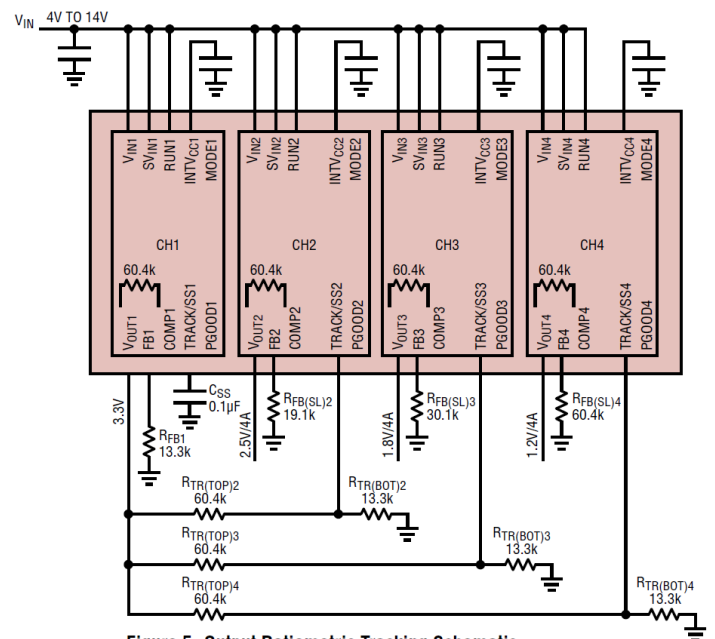
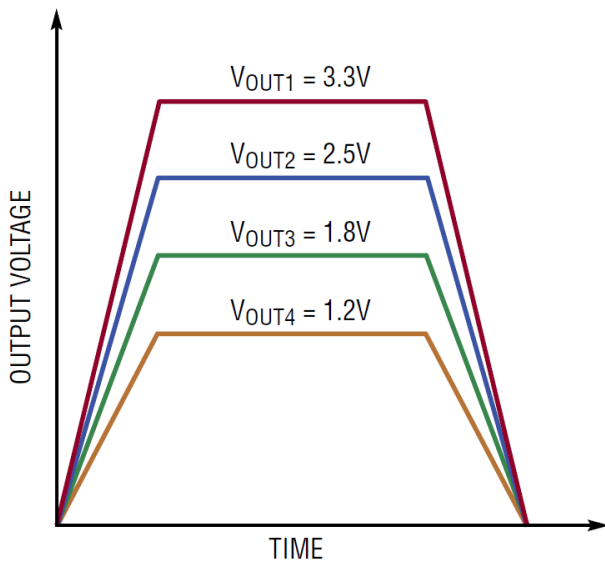

Figure 5. Output Ratio-metric Tracking Schematic
Figure 4. Output Ratiometric Tracking Waveform
Output voltage tracking can also be programmed externally using the TRACK/SS pin of each regulator channel. The output can be tracked up and down with another regulator. Figure 4 and Figure 5 show an example waveform and schematic of a ratio-metric tracking where the slave regulator's (V_{OUT2}, V_{OUT3} and V_{OUT4}) output slew rate is proportional to the master's (V_{OUT1}).
Where the 60.4k is the integrated top feedback resistor and the $R_{FB(SL)}$ is the external bottom feedback resistor of the YPM04644. The $R_{TR(TOP)}/R_{TR(BOT)}$ is the resistor divider on the TRACK/SS pin of the slave regulator, as shown in Figure 5. Following the upper equation, the master’s output slew rate (MR) and the slave’s output slew rate (SR) in volts/time is
For example, $V_{OUT(MA)} = 3.3V$, $MR = 3.3V/24ms$ and $V_{OUT(SL)} = 1.2V$, $SR = 1.2V/24ms$ as V_{OUT1} and V_{OUT4} shown in Figure 5. From the equation, we could solve out that $R_{TR4(TOP)} = 60.4k$ and $R_{TR4(BOT)} = 13.3k$ is a good combination. Follow the same equation, we can get the same $R_{TR(TOP)}/R_{TR(BOT)}$ resistor divider value for V_{OUT2} and V_{OUT3} .